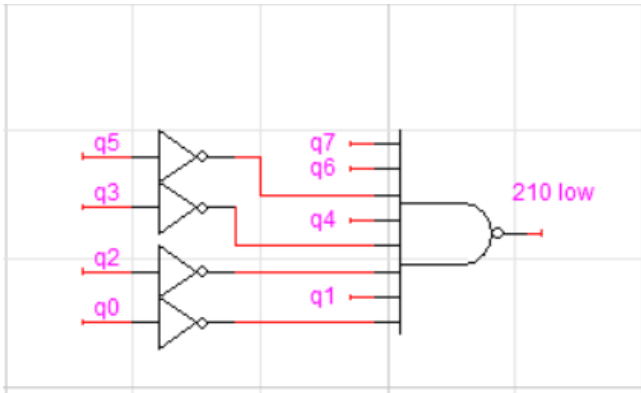

Figure 3. Gate that stops the counters once they reach 210.
1. Create two counters as pictured in Figure 3.